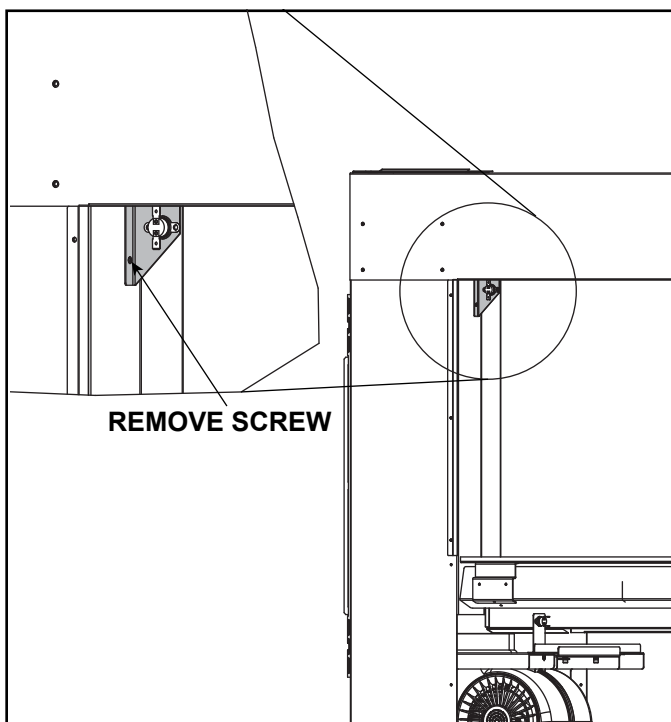

Figure 11.12 High Temperature Limit Switch Installed Correctly
1. Remove the firebox glass high temperature limit switch assembly by removing the machine screw holding the bracket in place and set the assembly aside. See Figure 11.12.
- Reinstall high temperature limit switch assembly and attach wire connections. See Figure 11.12.
- Ensure that high temperature limit switch is installed correctly with wires connected. See Section 11.1 for installation instructions. See Figure 11.12. Verify that wires are not pinched by the transition media tray.